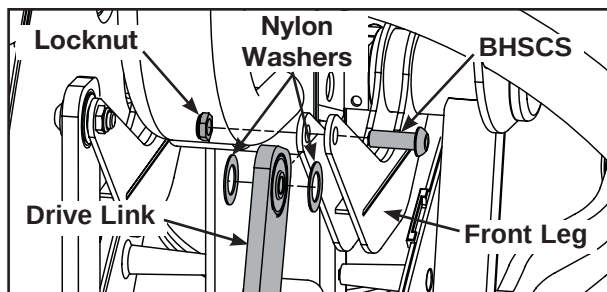

Figure 5
- A. Using a 5/16" Allen wrench and 3/4" open end wrench, remove the BHSCS securing drive link to the front leg. Remove the drive link and two nylon washers. See Figure 5.
- D. Place a nylon washer removed in step 7A on each side of the new drive link (A), then place in position on the front leg. See Figure 5.